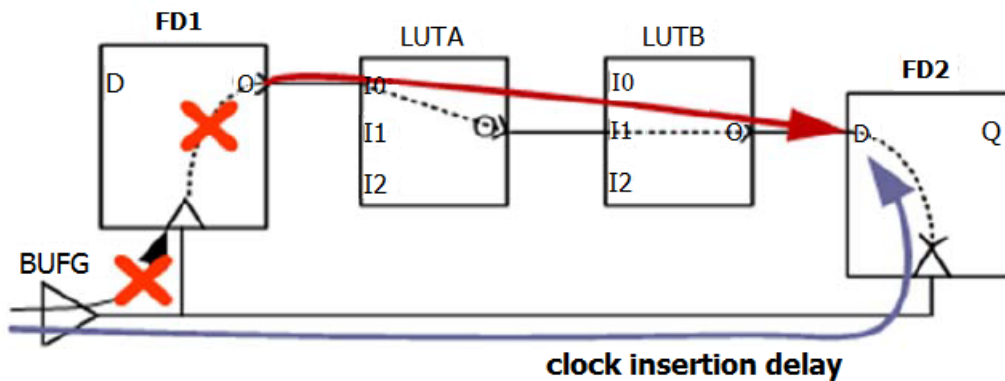

Figure 6-29: Path Segmentation Result in Large Skew
**Note:** Because of Path Segmentation, no clock insertion delay is used for the launch clock for paths starting from FD1/Q. This can potentially result in large skew because the clock skew of the endpoints is still taken into account. See Figure 6-29, Path Segmentation Result in Large Skew.